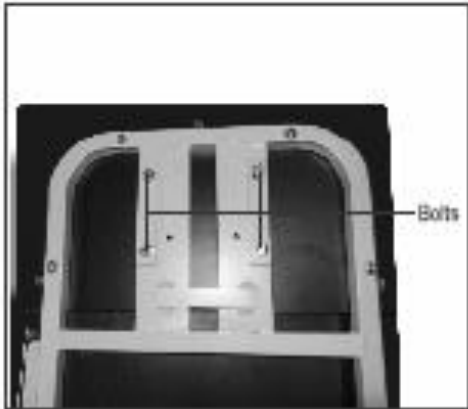

Fig 1
4. Place the top upside down on the flat surface (fig 1) and remove the bolt from the top